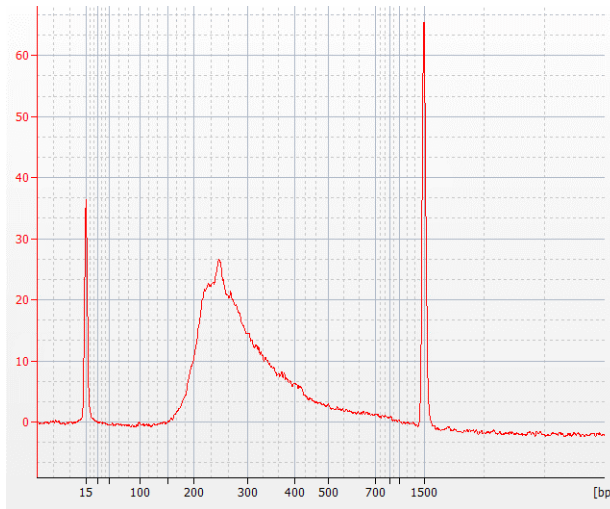
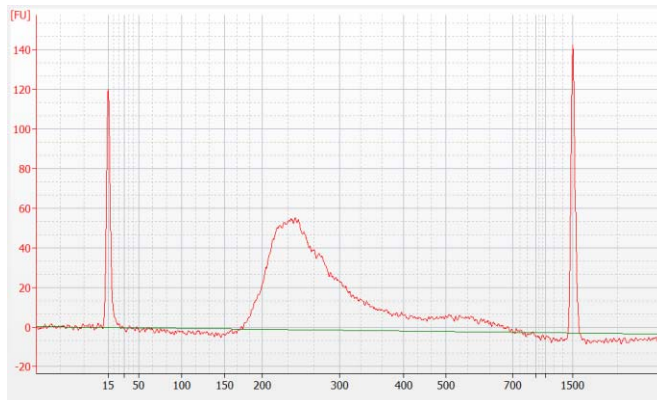

Figure 2 Amplified library DNA prepared from a high-quality RNA sample analyzed using a D1000 Assay.
Figure 3 Amplified library DNA prepared from an FFPE RNA sample analyzed using a D1000 Assay.
- 5 Verify that the electropherogram shows the peak of DNA fragment size positioned between 150 to 300 bp. Measure the concentration of the library by integrating under the entire peak. For accurate quantification, make sure that the concentration falls within the linear range of the assay. Sample electropherograms are shown in Figure 2 (library prepared from high-quality RNA) and Figure 3 (library prepared from FFPE RNA).